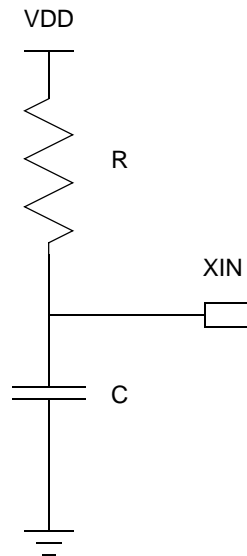

Figure 63. Connecting the On-Chip Oscillator to an External RC Network
Figure 63 displays the recommended configuration for connection with an external resistor-capacitor (RC) network.